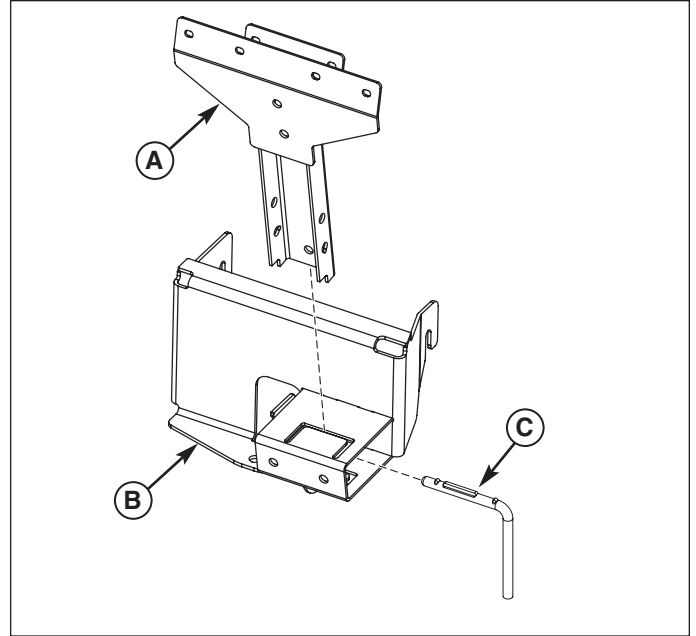
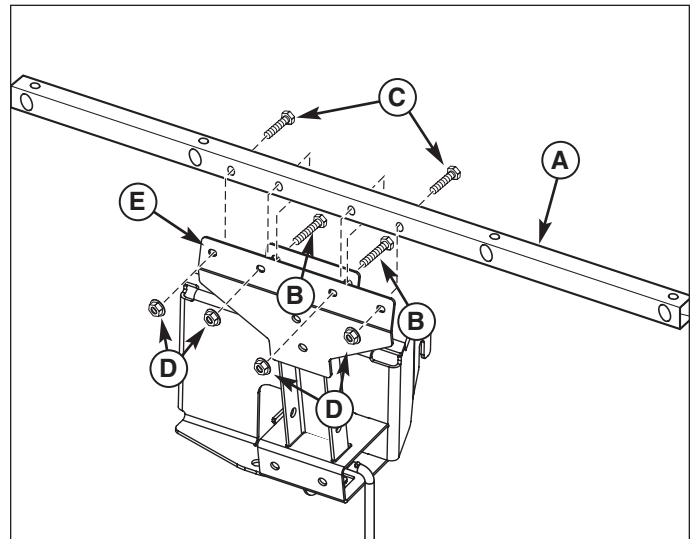

Figure 8. Install Channel Assembly
Figure 9. Install Cross Bar
1. Slide the channel assembly (A, Figure 8) into hitch (B) as shown.
2. Install the pin (C) into the right side of the hitch (B) turning pin (C) counterclockwise to lock channel in place.
3. Slide the cross bar (A Figure 9) into channel assembly (E). Secure inside holes with 5/16-18 x 2-1/4 cap-screws (B) and 5/16-18 locknuts (D). Secure outside holes with 5/16-18 x 2 cap-screws (C) and 5/16-18 locknuts (D).